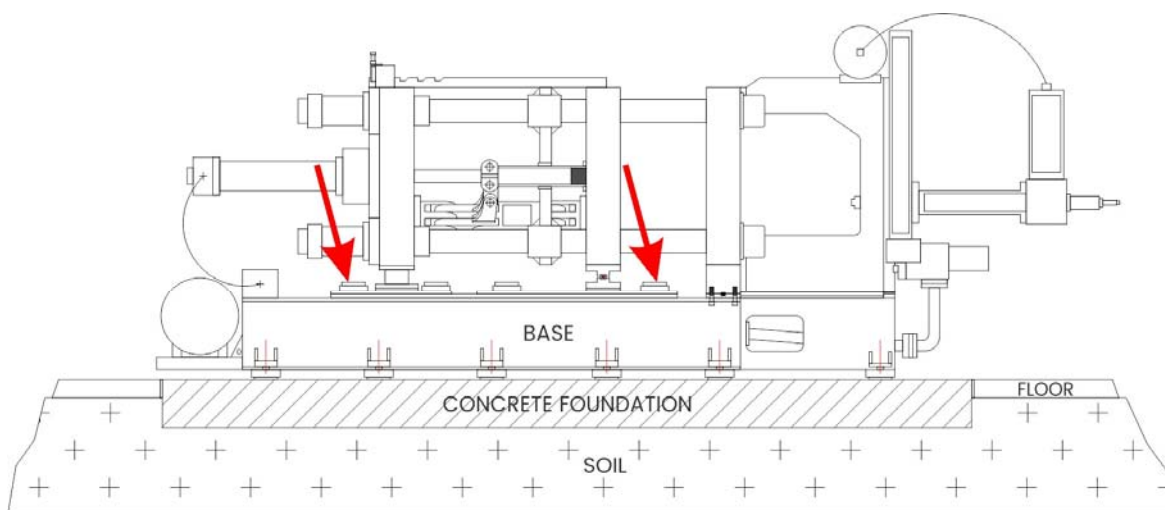

FIGURE 1
2. For most manufacturers, it is accepted practice to place the level(s) on the machine rails. See Figure 1.
3. Close the die space to the anticipated average die height, but leave enough space for a level to be placed at the very end of the rail as shown in Figure 1.